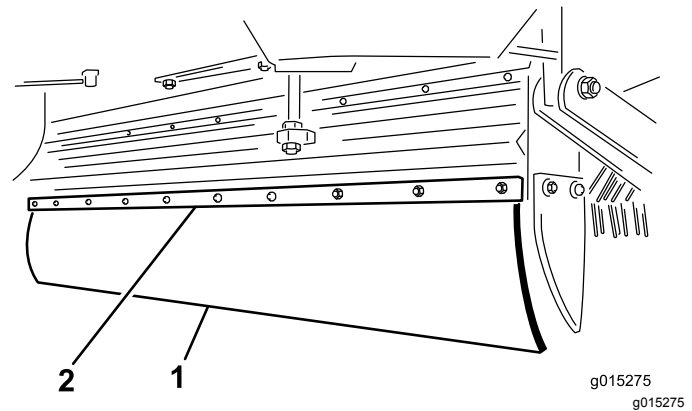

Figure 25
2. Remove the 10 bolts, washers, and nuts on the mounting flap and flap retainer (Figure 25).